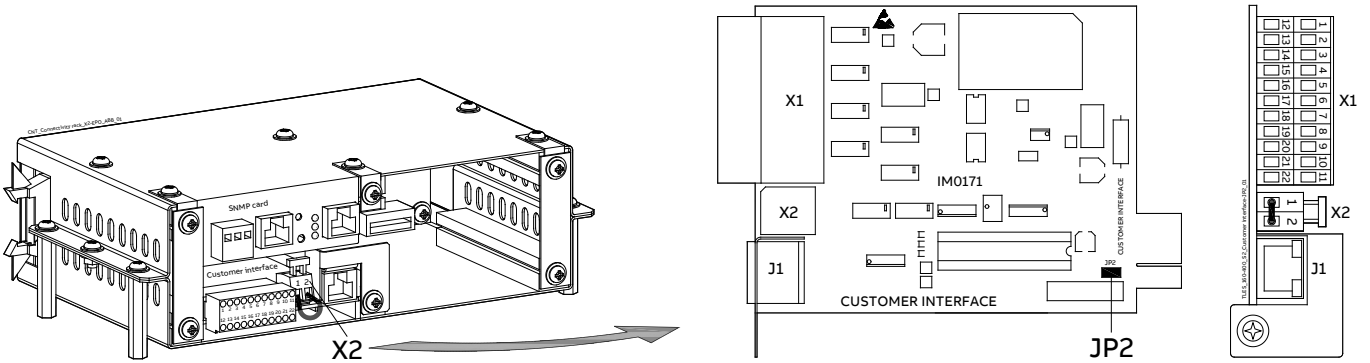

Fig. 4.10-3 X2 terminal block and Jumper JP2 on the Customer Interface Board
- Remove the cable short-circuiting terminals X2 / 1, 2 (see Fig. 4.10-3).
- Remove the Jumper JP2 (see Fig. 4.10-3).